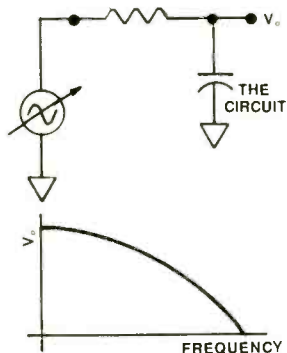

Figure 5. The R-C circuit used for an integrator also works as a low-pass filter. The high frequencies are shunted to common through the capacitor.
Because of the nature of the microprocessor and the firmware loaded on the system ROMs, automatic error messages will display on the monitor and help the technician determine the nature of the problem. Many times the error messages describe the action needed to accomplish the repair. Messages such as "Error—ROM checksum failure," "Error—RAM failure," "Error—Bad disk controller" and "Error—sector not found" will often appear. Figure 5 shows some possible messages and service procedures.
• *The low-pass filter.* The R-C circuit used for an integrator also works as a low-pass filter. Figure 5 shows this idea. The high frequencies are shunted to common through the capacitor. Because the differentiator is a high-pass filter and the integrator is a low-pass filter, those concepts are sometimes used to describe the action of the sync separator in an analog TV system. This model of circuit behavior is illustrated in Figure 6.